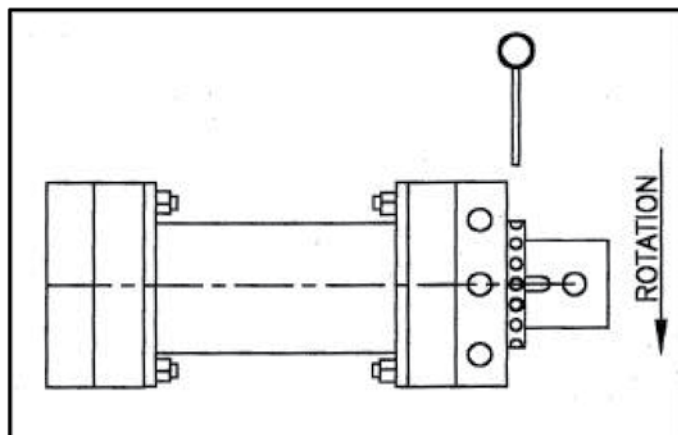

Fig. 4
Finally, pull the pin (item 6 - FIG. 2) and rotate the tensioner away from the head pulley, until the next hole shows (SEE FIG. 4) in the tensioner hub. Reinstall the pin.